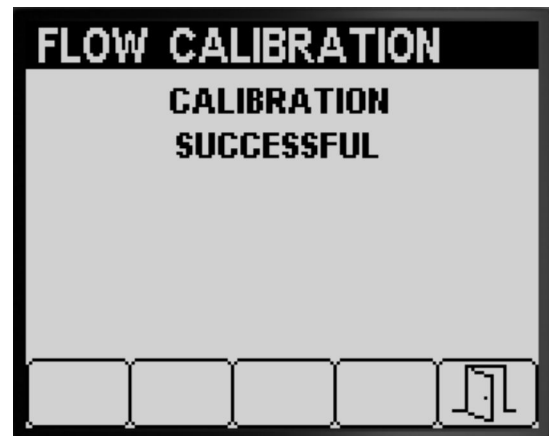
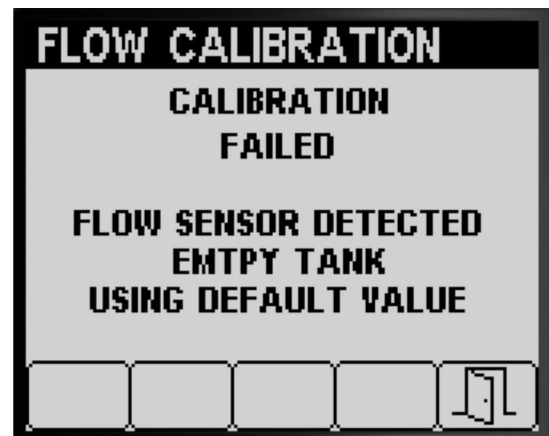

Figure 55
Figure 56
- A message displays confirming that the flow calibration is successful (Figure 55).
- A message displays indicating that the flow calibration has failed (Figure 56).
3. Press button 5 to exit the Speed Calibration screen (Figure 55, Figure 56, and Figure 57).